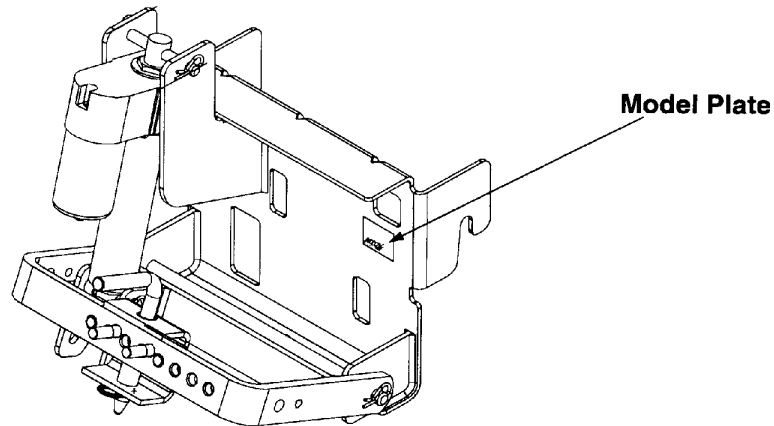

Figure 1
- Every attachment has a model plate. You can locate it by looking at the upper, right portion of the Sleeve Hitch Bracket Assembly. See Figure 1.